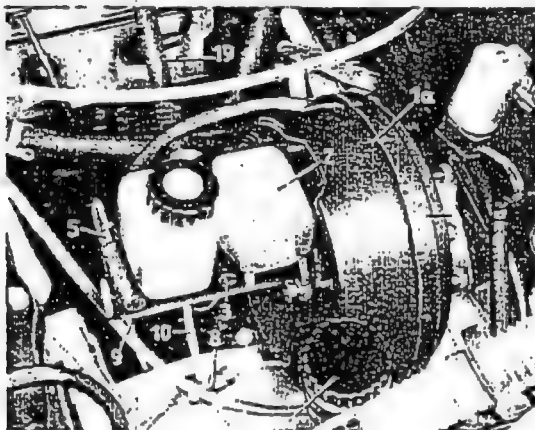

Fig. 42-16/1
2. Pump the brake fluid out of the reservoir (2) of the tandem master cylinder (3) via an opened bleed screw in the front wheel and rear wheel brake circuits, making sure that both chambers of the reservoir are emptied. Then detach the brake lines from the master cylinder (Fig. 42-16/1).